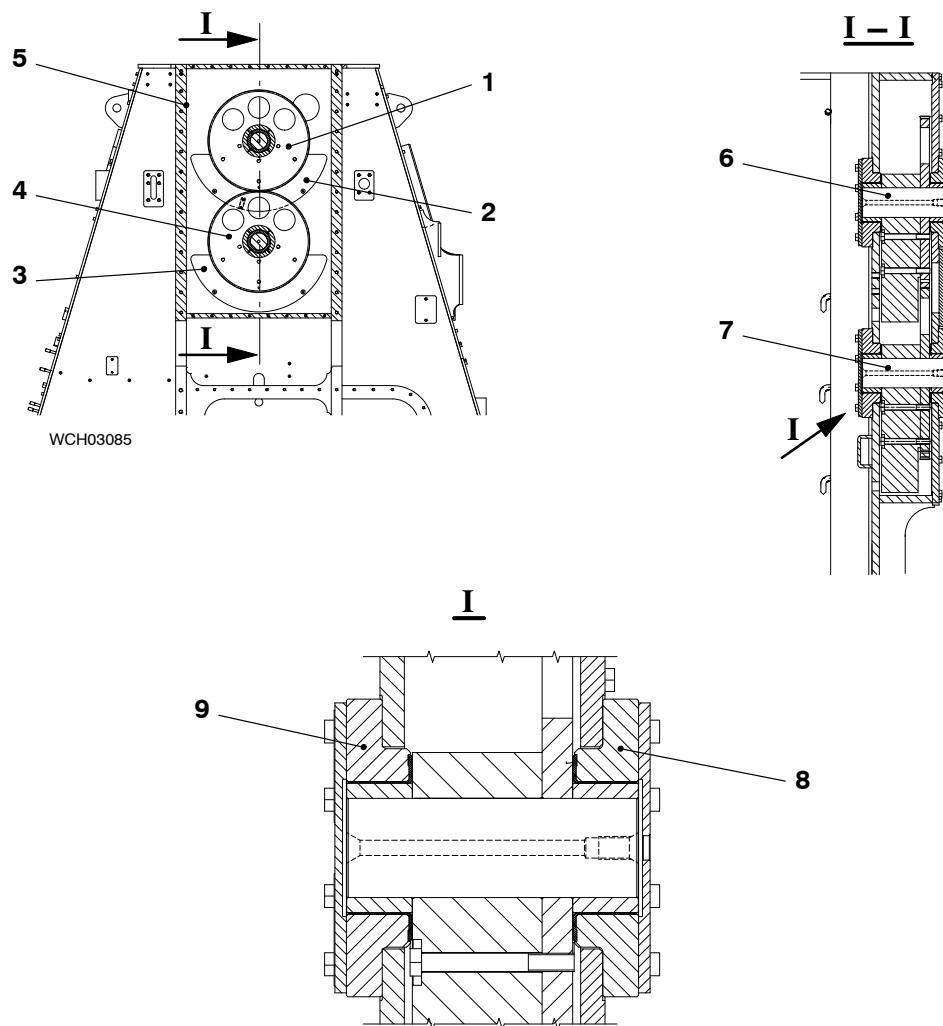

Fig. 2: Electrical Balancer and Shafts
The two shafts (6 and 7, Fig 2) are installed in the housing (5). These shafts turn in opposite directions at two times the engine speed. When the gear wheels (1, 4) turn, the two balance weights (2, 3) cancel each effect of the horizontal centrifugal forces. A vertical force moves up and down two times for each revolution of the engine.